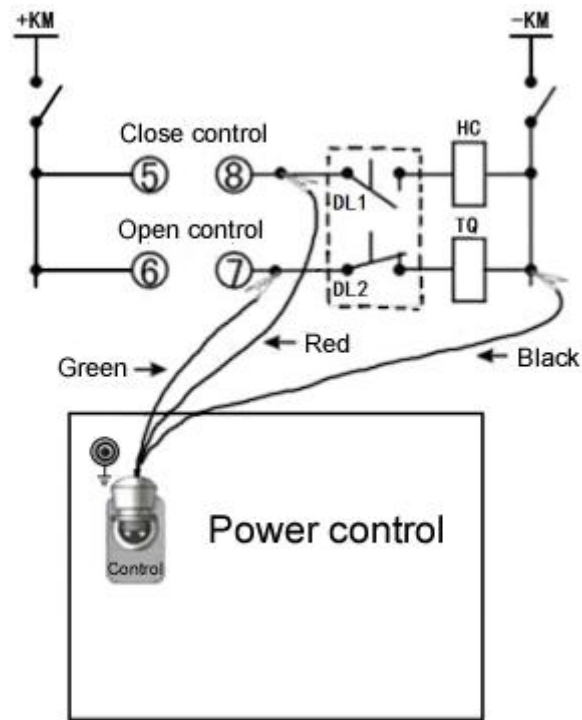

Figure 12. Control wiring diagram
(2) Closing and opening control line
① When the closing and opening control power supply is provided by the instrument, disconnect the control power supply in the breaker control box under test (usually pull out the insurance connecting the control power supply in the control box with the control bus), but the energy storage power supply of the breaker mechanism can not be cut off, and Then follow the wiring shown in Figure 12.
Solution: Find the control wiring diagram of the field control cabinet, ask the relevant protection professionals, and find out the auxiliary contact points of the closing and opening coils and breakers respectively. See the control wiring diagram in Figure 12 of this specification and explain the re-wiring. Check the control loop to ensure smooth circuit.